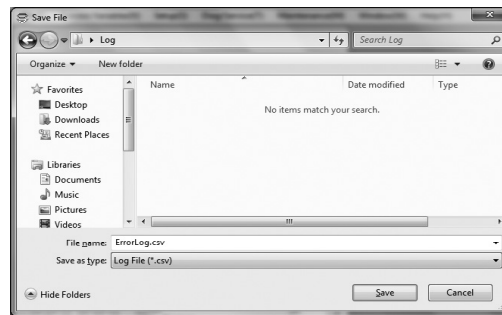

Fig.156
- ④ It is also possible to save a log to a file here. Click the "Save" button to display Fig. 156, specify the save location and file name, and then click "OK" to create a CSV file, completing the save process.